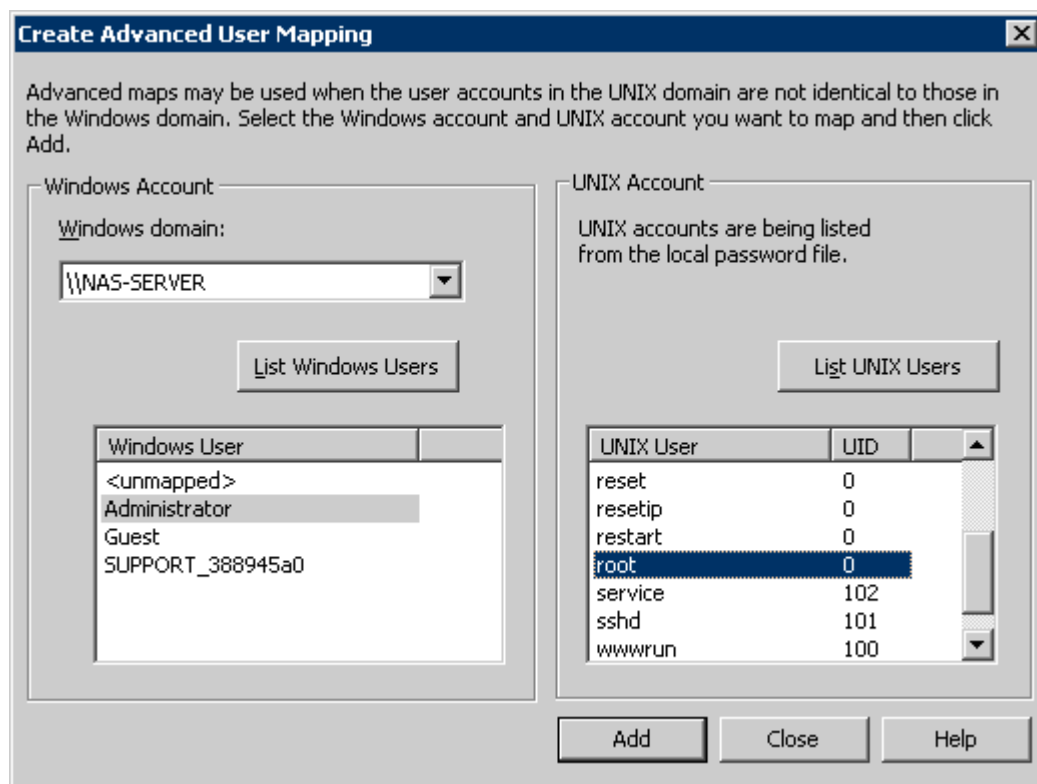

Fig. 145 "Create Advanced User Mapping" dialog box
- The **Create Advanced User Mapping** dialog box opens (see Fig. 145).